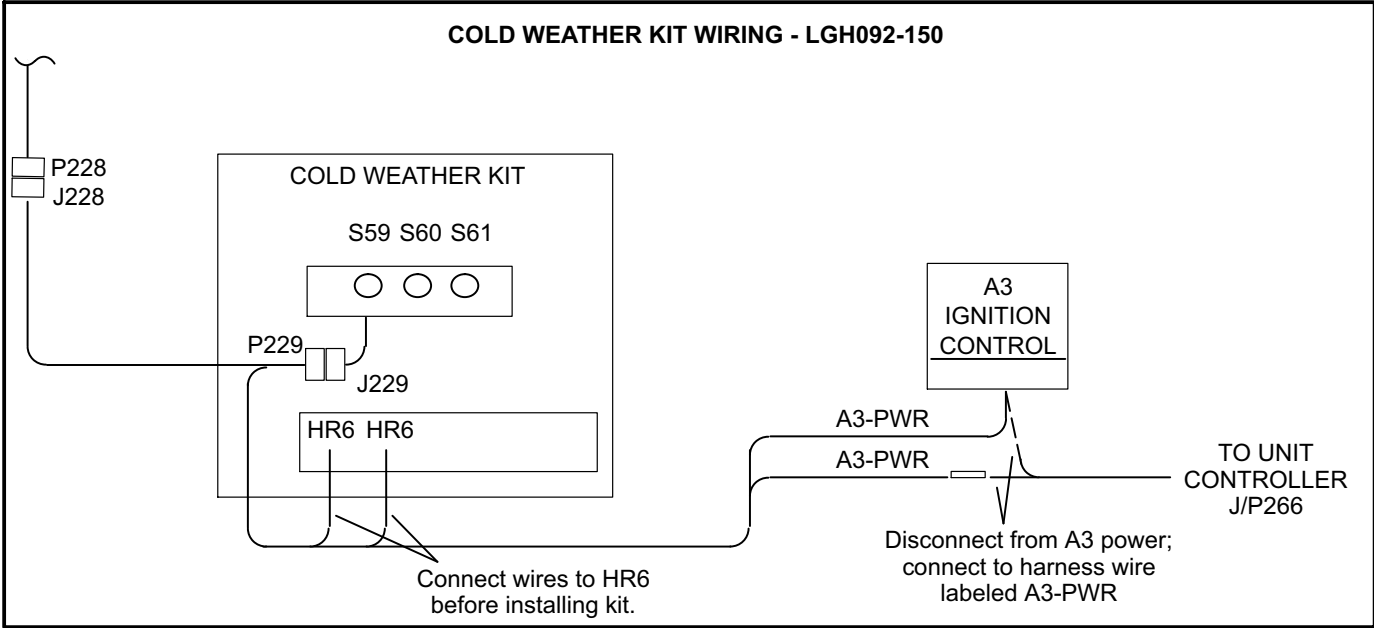
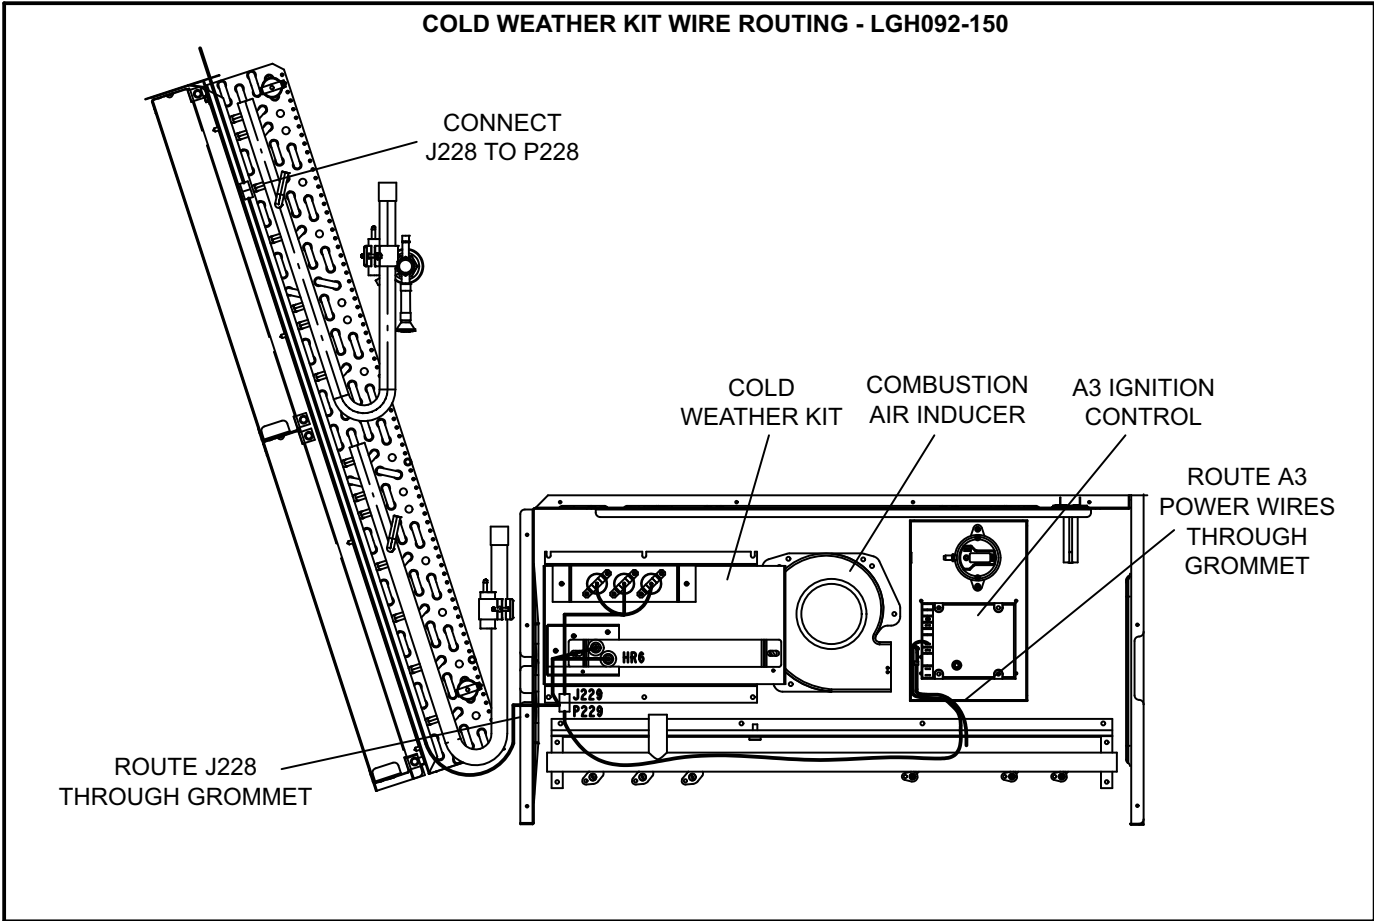

FIGURE 2
FIGURE 3
- 2- Locate the kit harness labeled 604954-01 kit harness. Remove cold weather kit cover and connect wires labeled HR6 to the cold weather assembly. See figure 2. Replace cold weather kit cover. Discard harness labeled 604956-01 provided in kit
- 3- Install heater assembly in heat section as shown in figure 3. Use existing screws.
- 4- Route the remaining harness wires as shown in figure 3. Make wire connections as shown in figure 2.
- 5- Install heater assembly in heat section as shown in figure 3. Use existing screws.